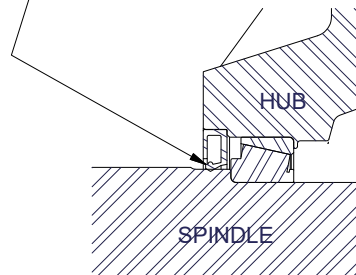

FIG. 4-72
6. Remove seal and inspect bearings, spindle washer, castle nut and cotter pin. Replace if necessary. Pack both bearings with approved grease and reinstall inner bearing. Install new seal in hub with garter spring facing the outside of hub by tapping on flat plate that completely covers seal while driving it square to hub. (FIG. 4-72) Install until flush with back face of hub. Using a safe lifting device rated at a minimum 200 lbs., install hub assembly onto spindle. Install outer bearing, spindle washer and castle nut.